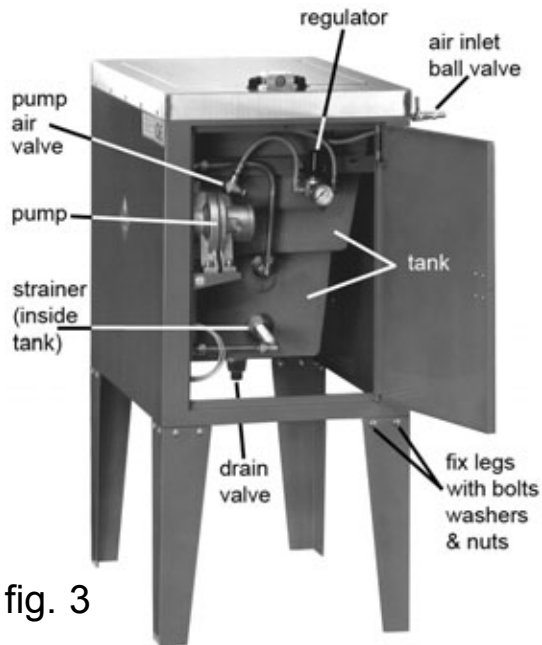

fig. 3
- 4.1. Ensure that the pump air valve and air inlet ball valve are closed before connecting the air supply. See fig.3.
5.1. PREPARING TANK & ITEMS FOR CLEANING (See fig.3)